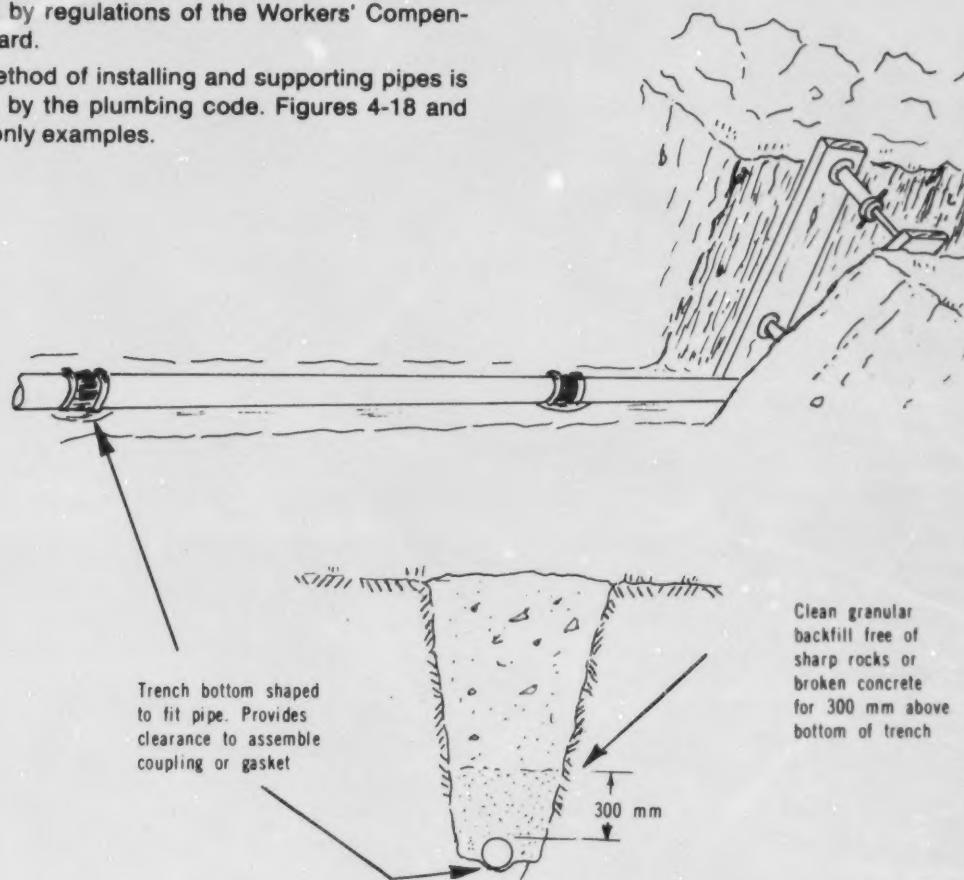

Figure 4-18. Examples of installing and Supporting Pipes
2. The method of installing and supporting pipes is governed by the plumbing code. Figures 4-18 and 4-19 are only examples.